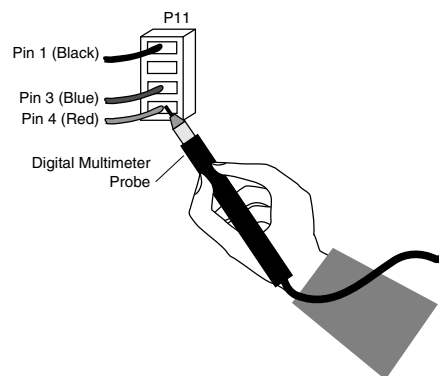

Figure 24.
2. Place the positive probe into the pin 1 location (Figure 24).
9. Place the positive probe into the Pin 4 location of P11 (Figure 24).